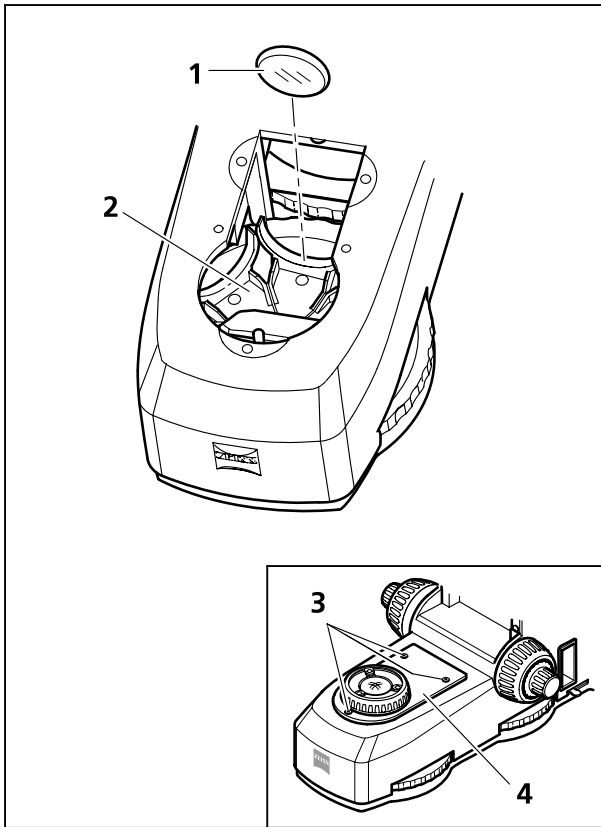

Fig. 3-53 Changing the filter in the filter wheel transmitted light
- Unscrew three screws (Fig. 3-53/3) of the field diaphragm socket (Fig. 3-53/4) and pull the socket out of the stand foot.
- If necessary, pull the filter to be changed (Fig. 3-53/1) out of the corresponding position of the filter wheel (Fig. 3-53/2).